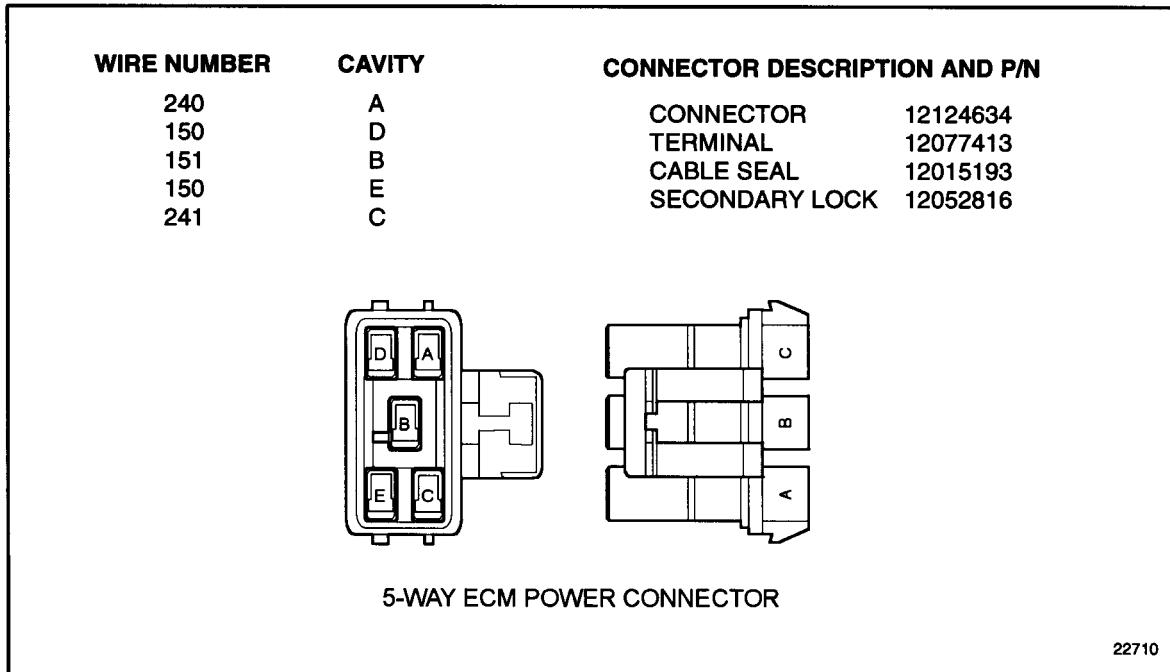

Figure 10-5 5-Way ECM Power Harness Connector
1. Measure voltage between socket B3 on the vehicle harness connector (red lead) and sockets D and E of the 5-way power harness connector. For 5-way ECM power harness schematic, see Figure 10-5.